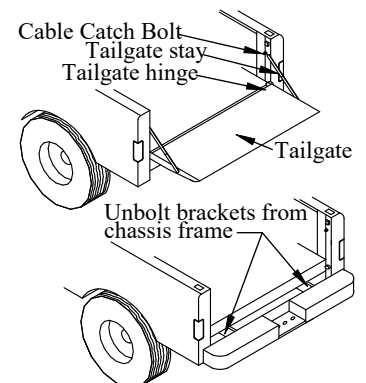

Figure 4: Remove Hardware.
1. **Remove** the tailgate (Figure 4).